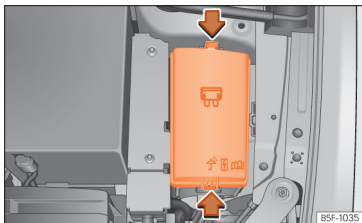

Fig. 203 In the engine compartment: lid of the fuse box.
- Press the locking tabs to unlock the fuse box cover ››› **Fig. 203**.